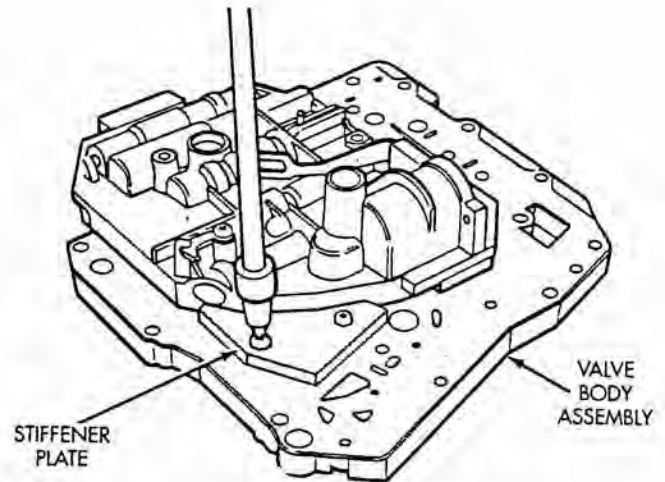

Fig. 11 Stiffener Plate Location
(4) Remove valve body stiffener plate (Fig. 11).